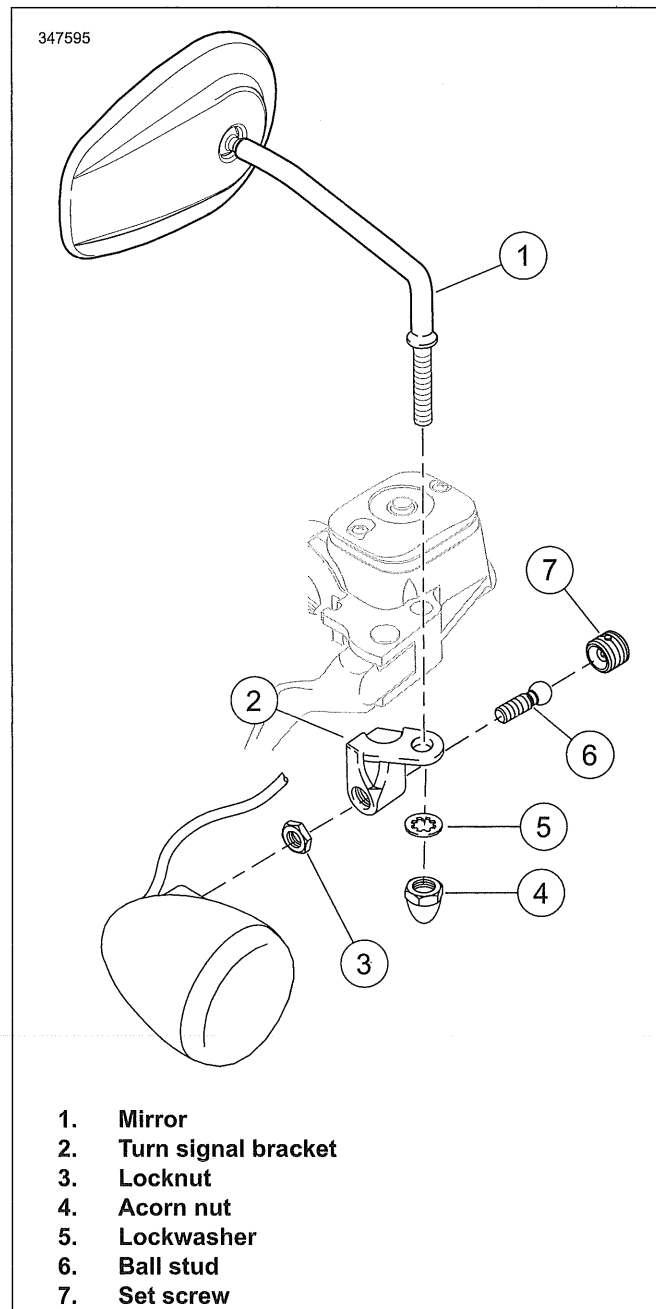

Figure 7-71. Front Turn Signals
1. See Figure 7-71. Remove front turn signals.
- a. Loosen set screw (7).
- b. Loosen locknut (3) and remove ball stud (6) from turn signal.
4. See Figure 7-71. Install front turn signal.
- a. Install ball stud (6) to turn signal and tighten locknut (3).